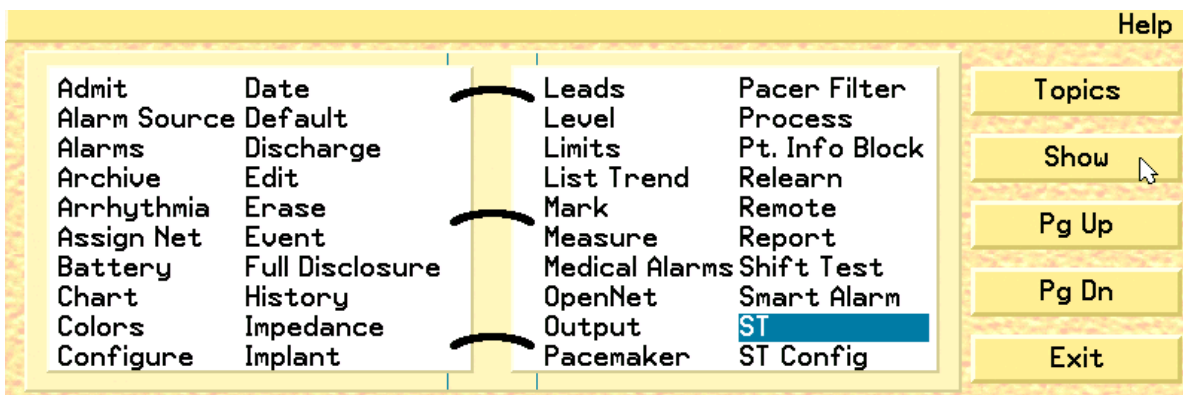

Fig. 2. Help Index Screen
2. Click on a help topic or click on **Index/Key Words** to display the Index screen (fig. 2).